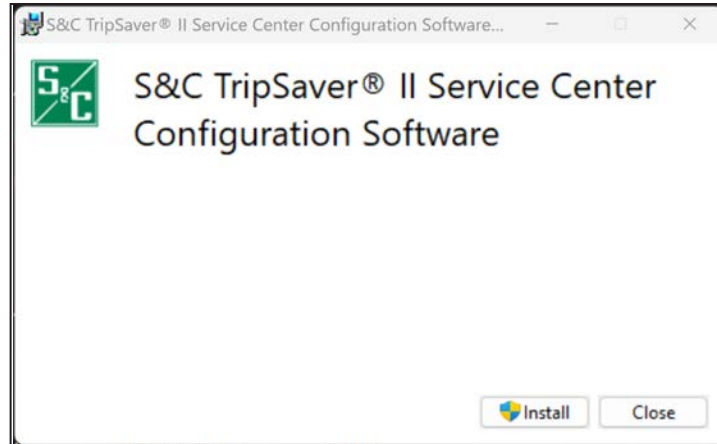

Figure 3. Launching the software installer.
- STEP 1.** Double-click on the downloaded installation file to self-extract and start the process. The name of the software and its version number will appear. Click on the **Install** button to proceed, or click on the **Close** button to quit the installation process. See Figure 3.